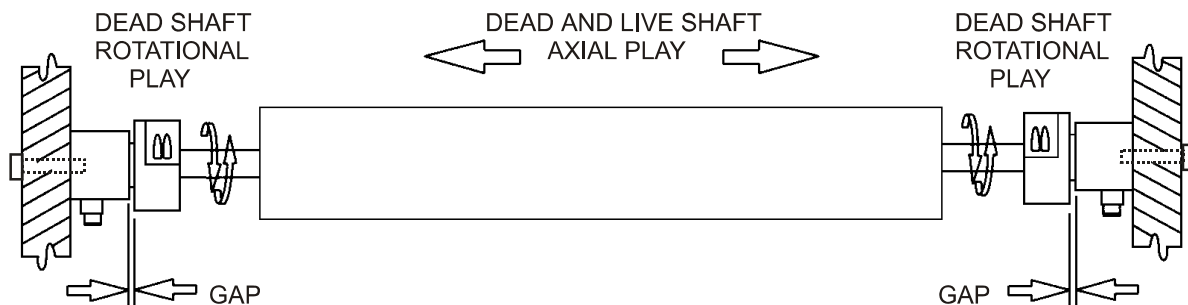

Figure 10 - AXIAL AND ROTATIONAL PLAY
For any tension transducer to operate properly, there must be some axial (along the idler shaft) movement capability to allow for shaft deflection and length variations caused by temperature fluctuations. The Model C transducer is designed with approximately 0.040 inches (1.0mm) of axial compensation per transducer with a maximum of 0.080" (1.5mm) per pair. To preserve this capability, follow the instructions below. A normal installation will have about 0.040" (1.0 mm) of axial movement. The D version coupling should also have a small amount of rotational free play. See Figure 10.
If shaft length is correct and installation has been done correctly, you will be able to move the idler roll shaft axially at least 0.040 inch (1.0mm). **THE AXIAL MOVEMENT IS ESSENTIAL TO THE PROPER OPERATION OF THE TRANSDUCERS! VERIFY THE AXIAL MOVEMENT NOW.** Use a feeler gage placed in the gap between the shaft coupling and beam housing to measure the movement (see Figure 10). On PB style mounting there is some adjustment to this movement with the clearance holes of the mounting bolts. **NOTE:** If you used the special procedure for hot installations, you will not be able to measure any axial movement until the idler roll gets hot.
Also verify the rotational free play (D version, only) at this time, see Figure 10. Not much is needed, only enough to be able to feel. If none is detected, loosen one shaft clamp and turn both the idler shaft and the loose coupling in the SAME direction. Then re-tighten the clamp.
6. CHECK THE GAP FOR BEARING AXIS ALIGNMENT (see Figure 10)